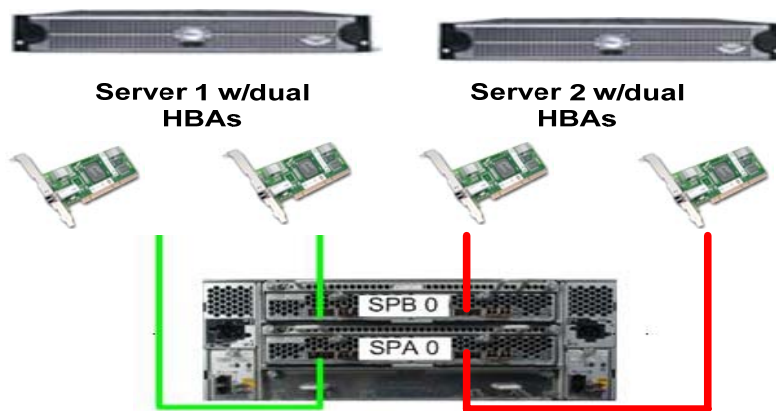
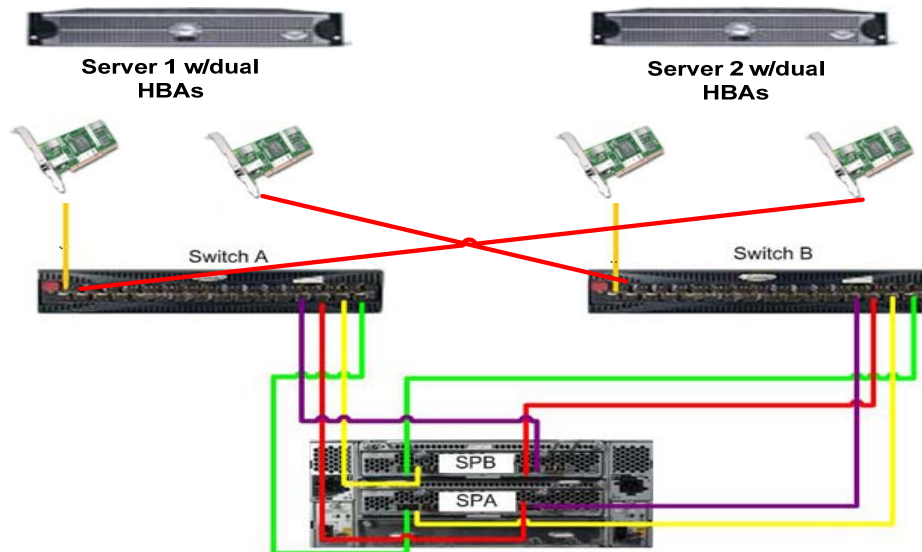

Figure 2 - Cabling a Direct Attached Dell/EMC CX3-80
Figure 3 - Cabling a Dell/EMC CX3-80 in a SAN configuration
Figure 2 illustrates the storage cabling of the two-node PowerEdge cluster hosting Oracle database and the Dell/EMC CX3 storage array where the data resides. Each CX3 storage array has two storage processors (SP), called SPA and SPB, which can access all of the disks in the system. The CX3 storage array provides the physical storage capacity for the Oracle 11g RAC database. Before data can be stored, the CX3 physical disks must be configured into components, known as RAID groups and LUNs. A RAID group is a set of physical disks that are logically grouped together. Each RAID group can be divided into one or more LUNs, which are logical entities that the server uses to store data. The RAID level of a RAID group is determined when binding the first LUN within the RAID group. It is recommended to bind one LUN per RAID group for database workloads to avoid disk spindle contention.¹ For details on LUN configuration, please refer to the “Configuring Disk Groups and LUNs” section below.
Figure 3 illustrates the interconnection of a PowerEdge server hosting Oracle 11g RAC and Dell/EMC CX3-80 storage system where the database resides in a SAN environment. This topology introduces a fibre channel switch which provides the means to connect multiple storage subsystems to the host system with limited HBA ports. With the addition of the fibre channel switch additional I/O paths are introduced, which can provide additional redundancy. By using two host bus adapters (HBA) in an Active/Active configuration, commands and data can flow over both HBAs and fibre links between the server and storage system. If an HBA controller, switch, or a CX3-80 storage controller fails, operations continue using the remaining HBA – switch – CX3-80 storage controller combination.
Note: The different colored connections in Figure 3 are fibre channel connections. The different colors from the Switches to the SPs represent different path options available from switches to the storage.
As illustrated in Figure 2 and Figure 3, it is recommended that two HBAs be installed on each of the PowerEdge server hosting the Oracle 11g RAC database because in the event of a HBA failure in a single HBA fabric environment, the host will lose access to the storage until the failed HBA is physically replaced. Using dual HBAs provides redundant links to the CX3 storage array. If the dual port HBAs is required to achieve the IO throughput, use two dual port HBAs connecting to two switches respectively to provide redundant links.